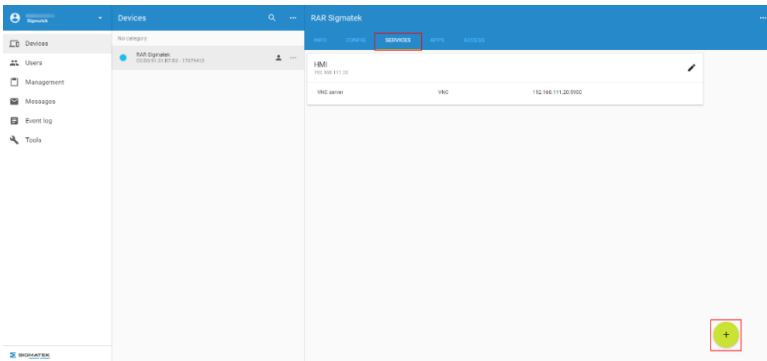

Figure 5.60 Add a new service to the remote device via the RAP > Device > Services tab.
1. From the RAP main menu, select the Device and open the “Services” tab. Click on the “+” button to add a new service (Figure 5.60).